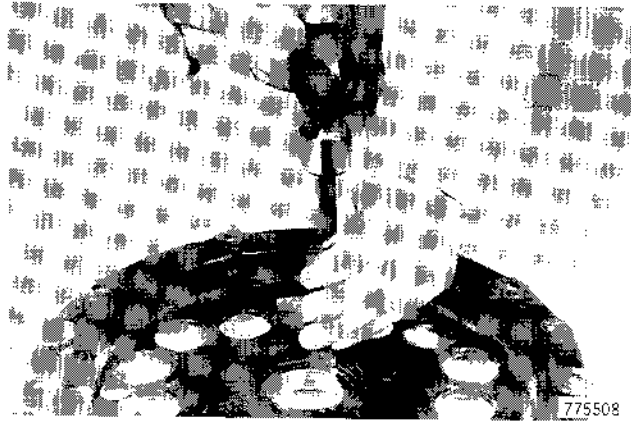

Figure 91
30. Turn the outer cover over and tap the bearing out with a punch and hammer, Figure 91.